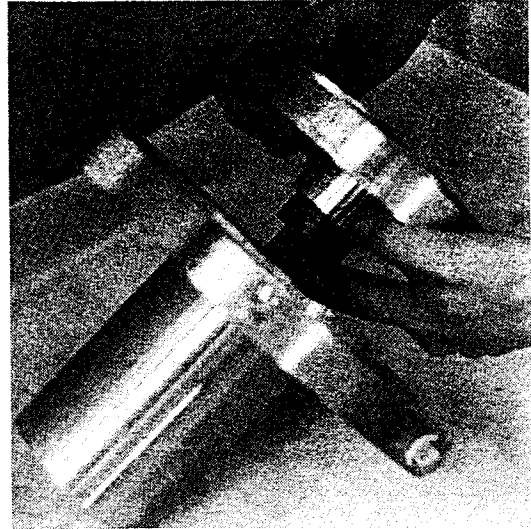

Figure 3
10. Carefully lift off the casing cover (Item 3). Both the bushing (Item 42) and the sleeve (Item 43) are now loose and may come out with the casing cover. Since both parts may be damaged if dropped, be prepared to hold them as the casing cover clears the shaft [Fig. 3].